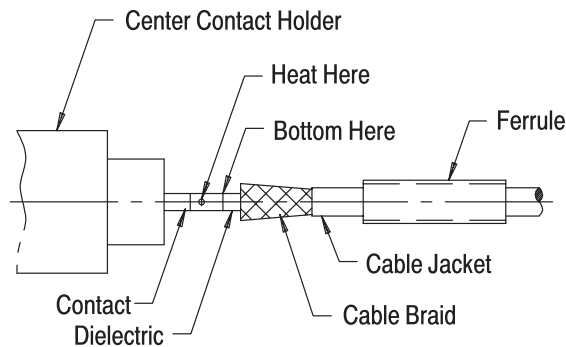

Figure 4
A. Soldering of Center Contact (Figure 4)